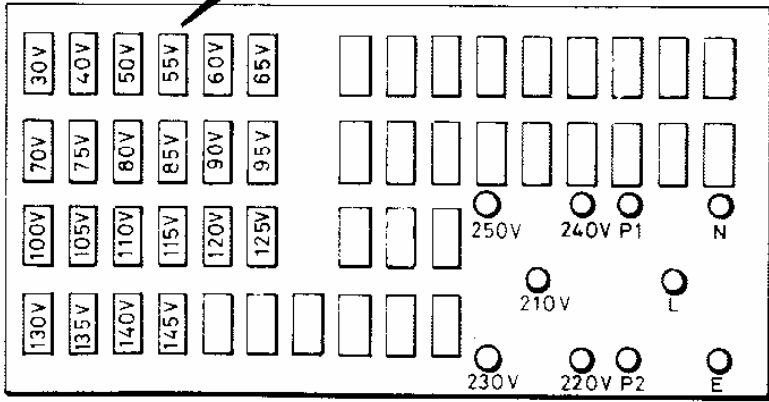

Fig.28 Preliminary Positions of mA Tap Leads
20.    PRELIMINARY CONNECTIONS of mA TAP LEADS.    Fig 28
Check that the five yellow leads idented 50, 75, 100, 125 and 150 are connected to voltage terminals listed in Fig 28.
Other yellow leads idented 75, 100, 125 and 150 must be connected to voltage terminals listed in Fig 28, page 39.